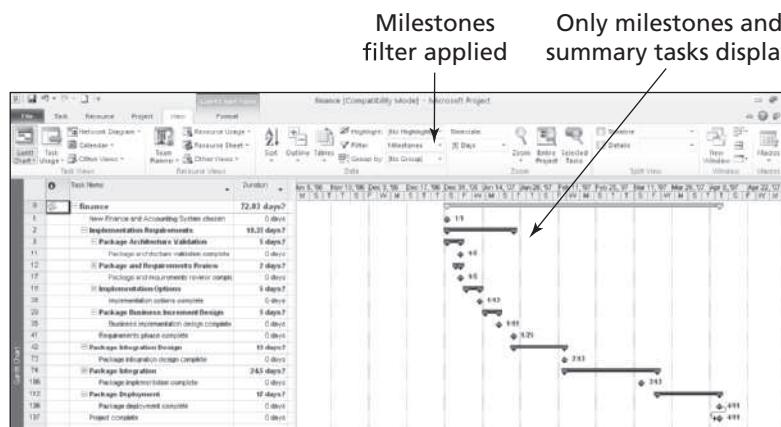

FIGURE A-15 Milestone tasks filter for Project 2010 finance file
2. *Filter to show specific tasks.* Click **Milestones** in the list of filters, and move the split bar to the left to see all the milestones on the Gantt chart. Your screen should resemble Figure A-15. The black diamond symbol represents a milestone, a significant event on a project.